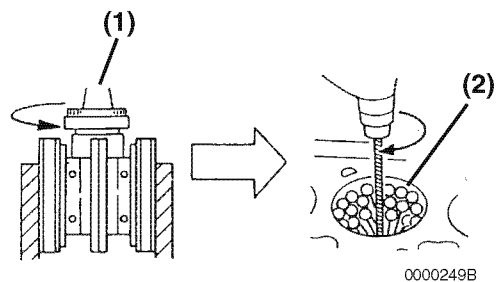

Figure 6-129
2. **Honing** - Minor cylinder imperfections may be corrected by using a rigid cylinder hone (**Figure 6-129, (1)**). Be sure not to exceed the maximum cylinder bore specification.
Deglazing - A used cylinder that did not require boring or honing, should always be deglazed with a ball hone (**Figure 6-129, (2)**) before installing new piston rings. This will properly prepare the cylinder surface to allow new piston rings to seat properly.
- Use a 300-grit hone at 300 - 1200 rpm (**Figure 6-129**).